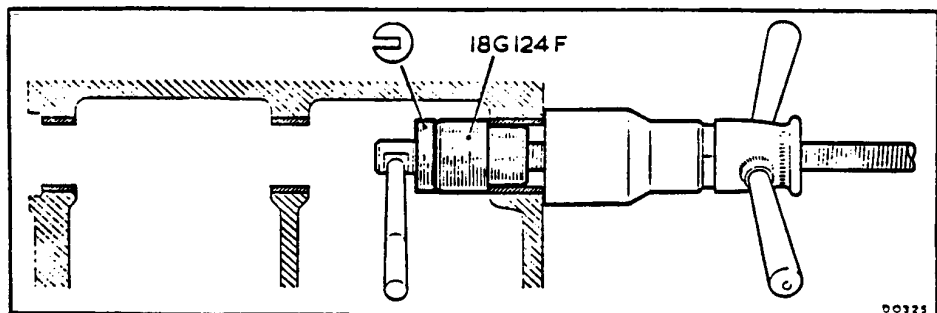

Fig. 1
1. Withdraw the front bearing liner, using the tools shown in Fig. 1.